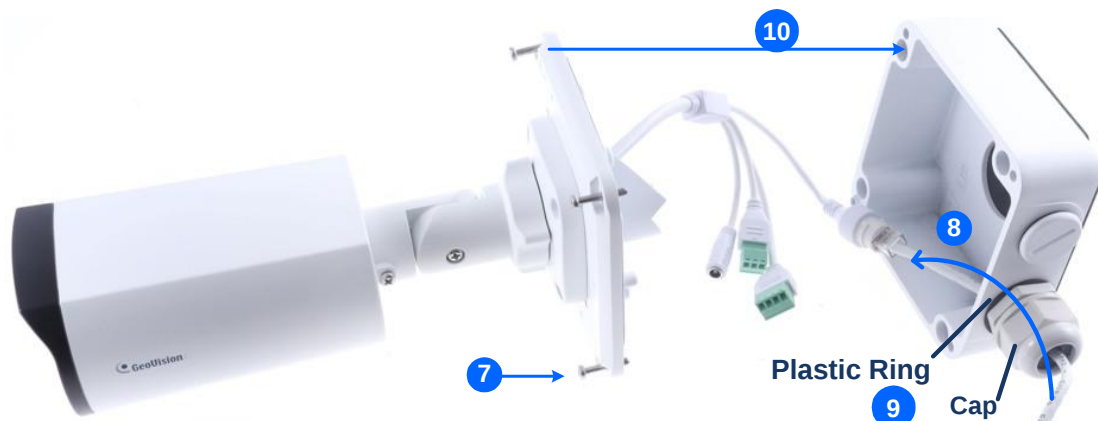

Figure 1-61
7. Reattach the box cover to the power box, as shown in No. 7, *Figure 1-61*.
8. Thread the Ethernet cable through the PG21 conduit connector and the power box as shown in No 8, *Figure 1-61*. Then connect the cable to the camera. To waterproof the cable, see *1.8 Waterproofing the Cable*.
9. Rotate the plastic ring to secure the conduit connector to the power box. Secure in the cap, as shown in No 9, *Figure 1-61*
10. Secure the box cover to the power box, as shown in No 10, *Figure 1-61*.
7. Thread the Ethernet cable through the center hole (proceed to Step 9) or through the PG21 conduit connector and the power box as shown in No 8, *Figure 1-61* (proceed to Step 8).
8. Rotate the plastic ring to secure the conduit connector to the power box. Secure in the cap, as shown in No 9, *Figure 1-61*.